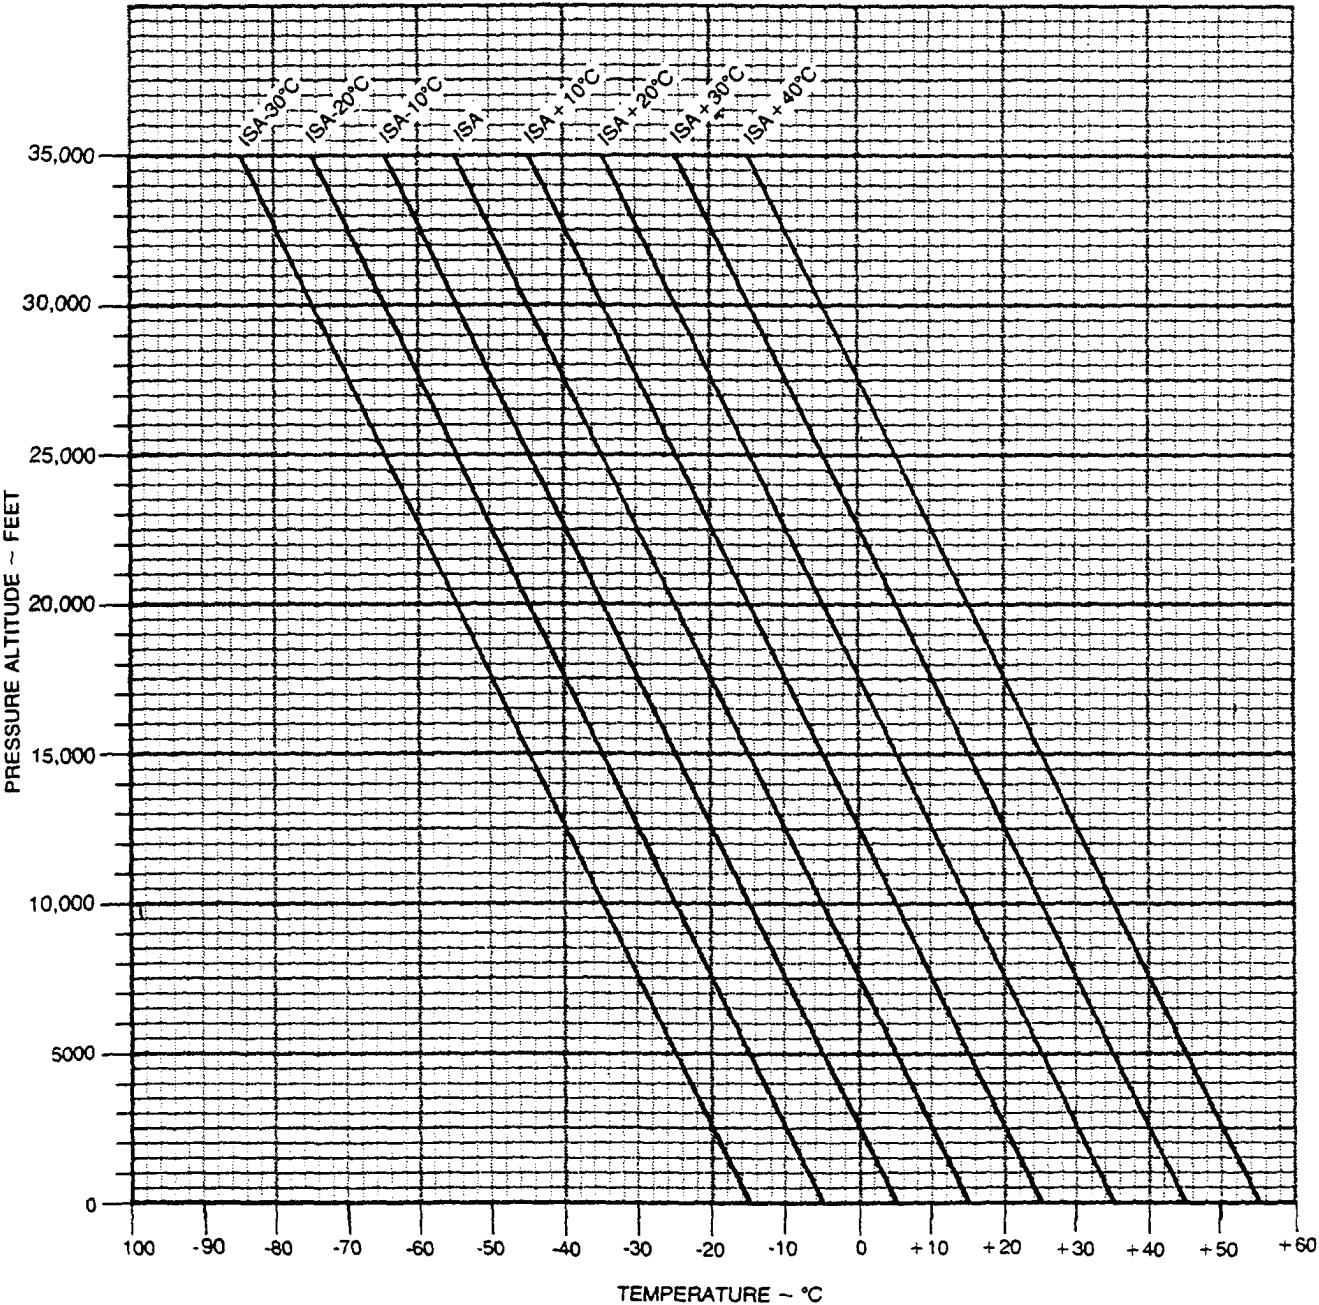

Figure 7-11. ISA Conversion
g. Performance Planning, Cruise. Recommended Cruise Power, 1700 RPM charts beginning at Figure 7-34 are normally used for cruise performance planning. Use Figure 7-11, ISA Conversion, to determine the correct chart, relative to ISA, for cruise performance planning. For this example, the mission is planned to be flown at FL240.
(1) If a weather forecast provides the forecast temperature at the cruise altitude, enter Figure 7-11 at that temperature. Trace up until intersecting the planned PRESSURE ALTITUDE ~ FEET. At that point, determine the closest ISA +/- guideline and use the corresponding chart for planning.
On Figure 7-11, ISA +23° is closest to the ISA + 20 reference line; therefore, use Figure 7-39, Normal Cruise Power, 1700 RPM, - ISA +20 °C for cruise performance planning.